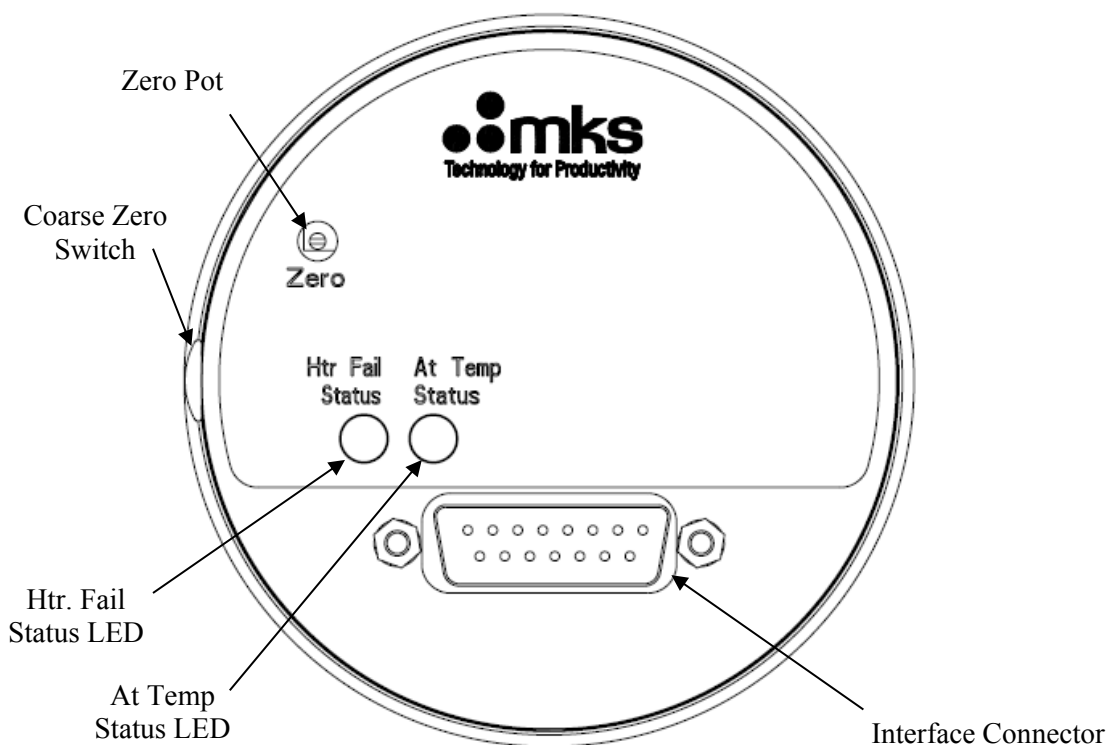
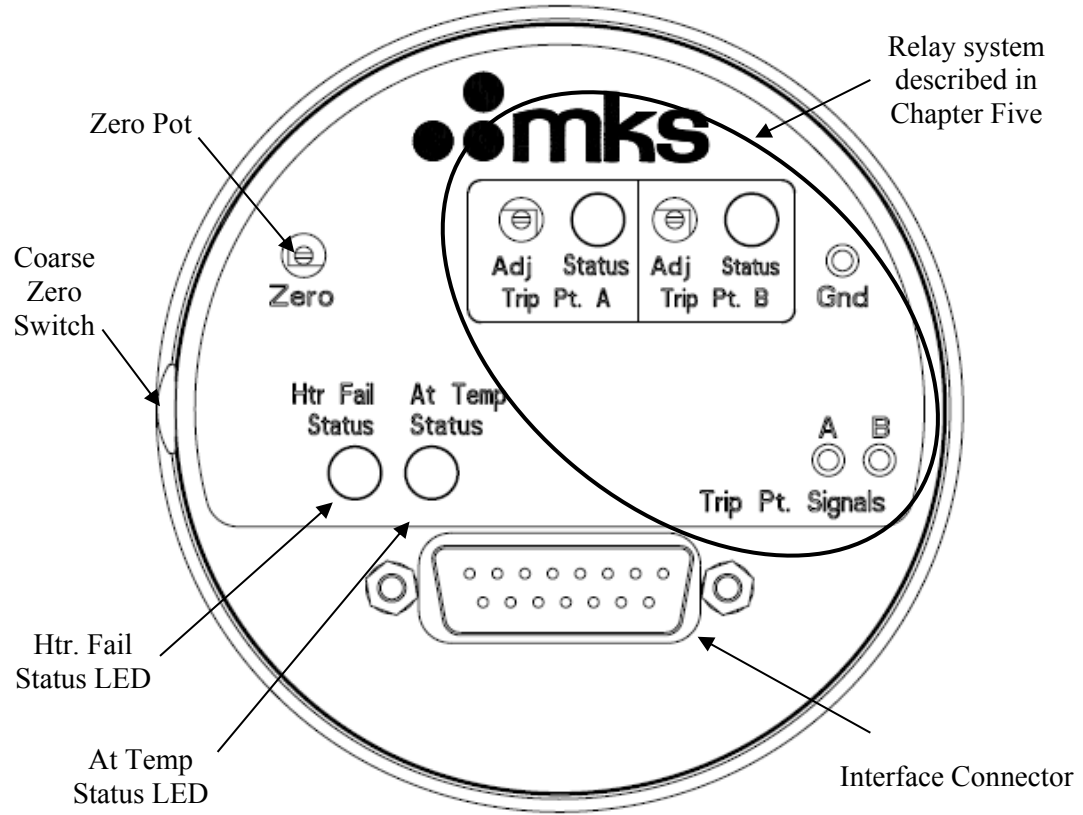

Figure 2: Top View of the Type 631B Transducer Without Optional Relay System
Figure 3: Top View of the Type 631B Transducer With Optional Relay System
The 631B transducer is powered by one ± 15 Volt power supply for both the electronics and heater. The cable connection to the 631B transducer via the Interface connector is shown in Figure 2: Top View of the Type 631B Transducer, page 30. Refer to Table 6: Pinout of the Interface Connector (J1), page 34, for the complete list of pin assignments for the Interface connector.
The 631B transducer has two adjustments for zero, a potentiometer and a coarse zero switch. The location of both are the same for the 631B with and without the trip point relay system and are shown in Figure 2: Top View of the Type 631B Transducer Without Optional Relay System and Figure 3: Top View of the Type 631B Transducer With Optional Relay System, pages 30 and 31, respectively.
The top of the 631B transducer without the optional relay system has two LEDs to indicate the status of the sensor heater. At power up, the “At Temp Status” LED will be yellow. Once the sensor temperature reaches the normal operating temperature, this LED will turn green. The “Htr Fail Status” LED is off unless the heater unit fails. Should the heater unit fail, “Htr Fail Status” LED will illuminate red and the “At Temp Status” LED will turn yellow. A “heater alarm relay” will become de-energized and change state providing a remote indication of a heater circuit failure using dedicated pins in the interface connector. Refer to Figure 2: Top View of the Type 631B Transducer Without Optional Relay System, page 30, to identify the location of the “At Temp Status” and “Htr Fail Status” LEDs. Refer to Heater Status LEDs and Heater Alarm Relay, page 40, for a detailed discussion of the operation of the heating system LEDs and relays.
The transducer with the optional trip point relay system has the same functionality as the transducer without the relay system described above. The relay system brings an additional two LEDs, two adjustment POTs and three test plugs to the top of the transducer. (Refer to Figure 3: Top View of the Type 631B Transducer With Optional Relay System, below, showing the location of the trip point relay system components.) The trip point status LEDs glow green when the corresponding relay is energized and are off when the corresponding relay is de-energized, depending on the relationship between the pressure output and the trip point value. (Refer to Chapter Five: Optional Relay System, page 43 for a complete description of the relay system.)
The Interface connector (J1) is a 15-pin male type D-subminiature connector. Refer to Figure 2: Top View of the Type 631B Transducer, page 30, for the location of the Interface connector for the 631B without the optional relay system. Refer to Figure 3: Top View of the Type 631B Transducer With Optional Relay System, page 31, for the location of the Interface connector for the 631B without the optional relay system. It contains the pins to connect the 631B unit to a power supply or power supply/readout. Table 6 specifies the pinout of the Interface connector.
4. Adjust the ZERO potentiometer with a small screwdriver until the readout displays zero (0.000). Typically, the ZERO potentiometer provides ample control under normal conditions. However, if the ZERO potentiometer fails to provide sufficient adjustment, additional zero range capability is available with the COARSE ZERO switch, located on the side of the unit (refer to Figure 2: Top View of the Type 631B Transducer, page 30, or Figure 3: Top View of the Type 631B Transducer With Optional Relay System, page 31, for location of the ZERO potentiometer and coarse zero switch.) Refer to *How To Adjust the Coarse Zero Switch*, page 39, for more information.